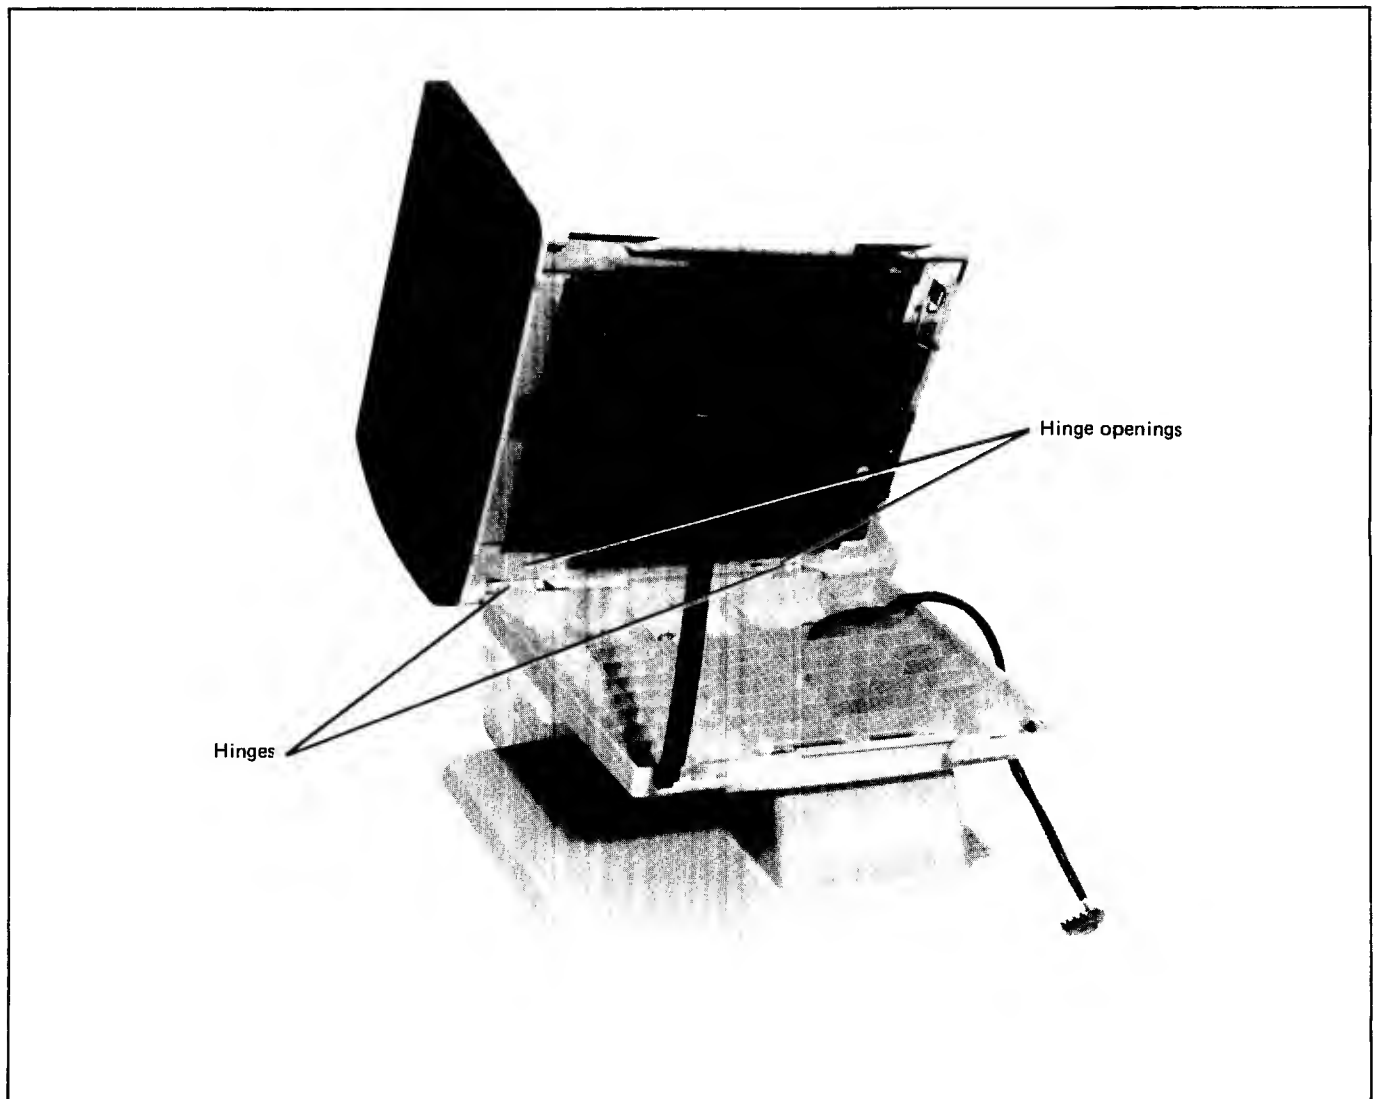

Figure 2-4 - Mating The Hinges To The Hinge Openings
1. Hold the mainframe above the support in a tilted position with the left side up, to clear the top prop, and the right side down so that the fixed hinges on the right side of the support enter the hinge openings (figure 2-4) along the right lower edge of the mainframe. Then slide the mainframe rearward approximately 1/4-inch to lock the hinges.